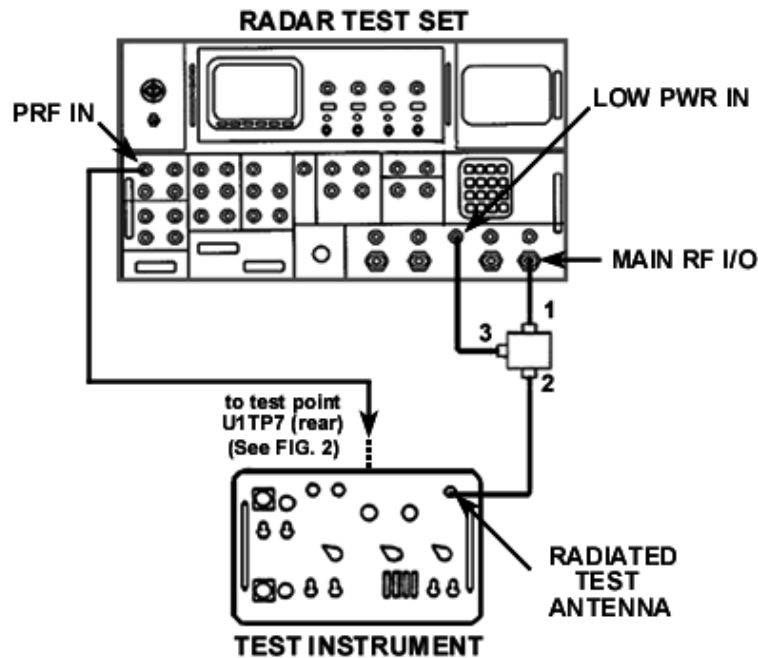

Figure 1. Receiver sensitivity – equipment setup.
- k. Connect equipment as shown in figure 1.
(3) Remove cable from TI **RADIATED TEST ANTENNA** connector (fig. 1) and connect end of cable to peak power meter sensor.
(4) On radar test set **Menu 11**, set **CW** to **ON** and measure and record power output at end of cable while cycling RF output between power settings noted in (2) above for threshold point. Average result should be -6 dBm  $\pm$ 1 dB, if not perform **b** below.
(5) Set radar test set **Menu 11, CW** to **OFF**. Disconnect cable from peak power sensor and reconnect to the TI **RADIATED TEST ANTENNA** connector (fig. 1).
(2) Set TI **POWER** switch to **ON**.
(3) Connect end of cable which was connected to TI **RADIATED TEST ANTENNA** connector (fig. 1) to peak power meter sensor.
(4) On radar test set **Menu 11**, set **CW** to **ON** and adjust RF power to obtain a reading of -6 dBm on peak power meter.
(5) Set radar test set **Menu 11**, **CW** to **OFF**. Disconnect cable from peak power sensor and reconnect to the TI **RADIATED TEST ANTENNA** connector (fig. 1).